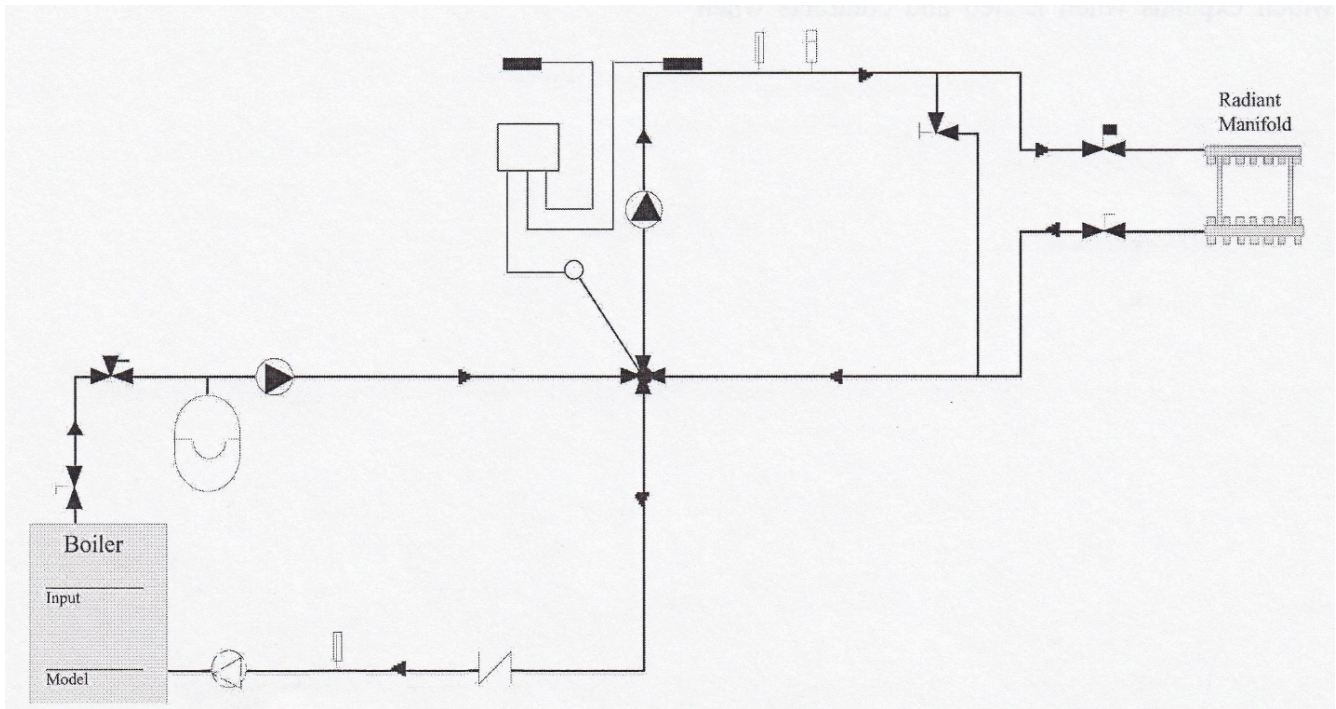

Figure 12 4-way mixing system using outdoor reset control
- Figure 12 4-way mixing system using outdoor reset control is courtesy of TECA BC.